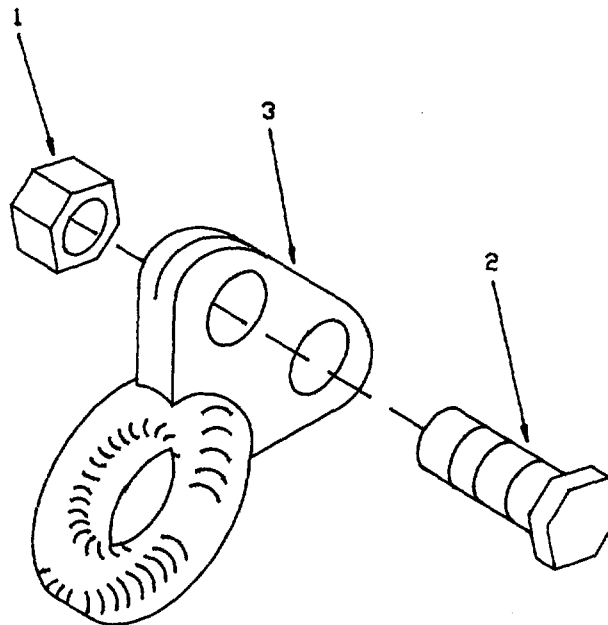

Figure 4-32. Drawbar Coupler.
- (1) Remove plain hexagon nuts (1, Figure 4-32) and cap screws (2).
- (2) Remove drawbar coupler (3).
- (1) Install drawbar coupler ((3, Figure 4-32).
- (2) Install cap screws (2), plain hexagon nuts (1) and tighten.